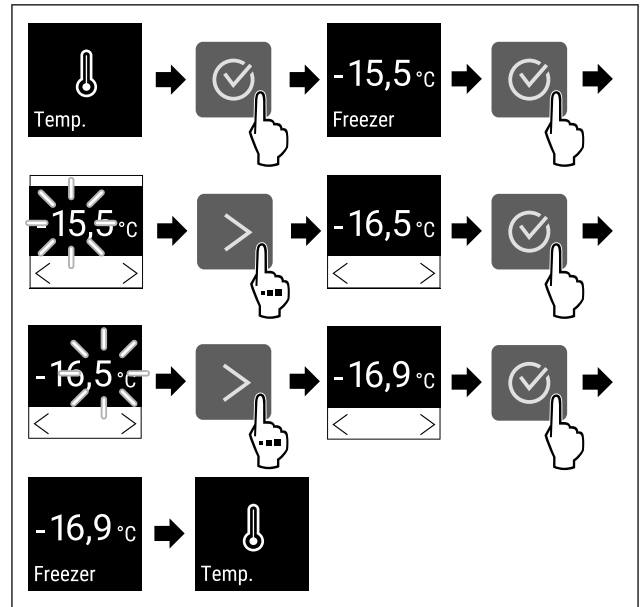

Fig. 65 Changing temperature from -15.5°C to -16.9°C
- ▶ Complete steps (see Fig. 65).